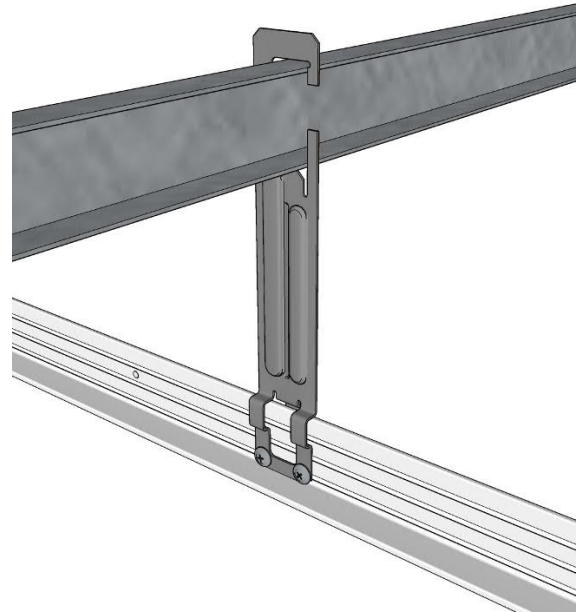

FIG. 19
1. The **Arcoplast TR-7400 Bracket** is to be used as an alternative method to attach the **TR35 Mainrails**. The **TR-7400 Bracket** is useful to attach **TR35** to a C-Channel steel sub-frame to attach directly to building structure. FIG 19